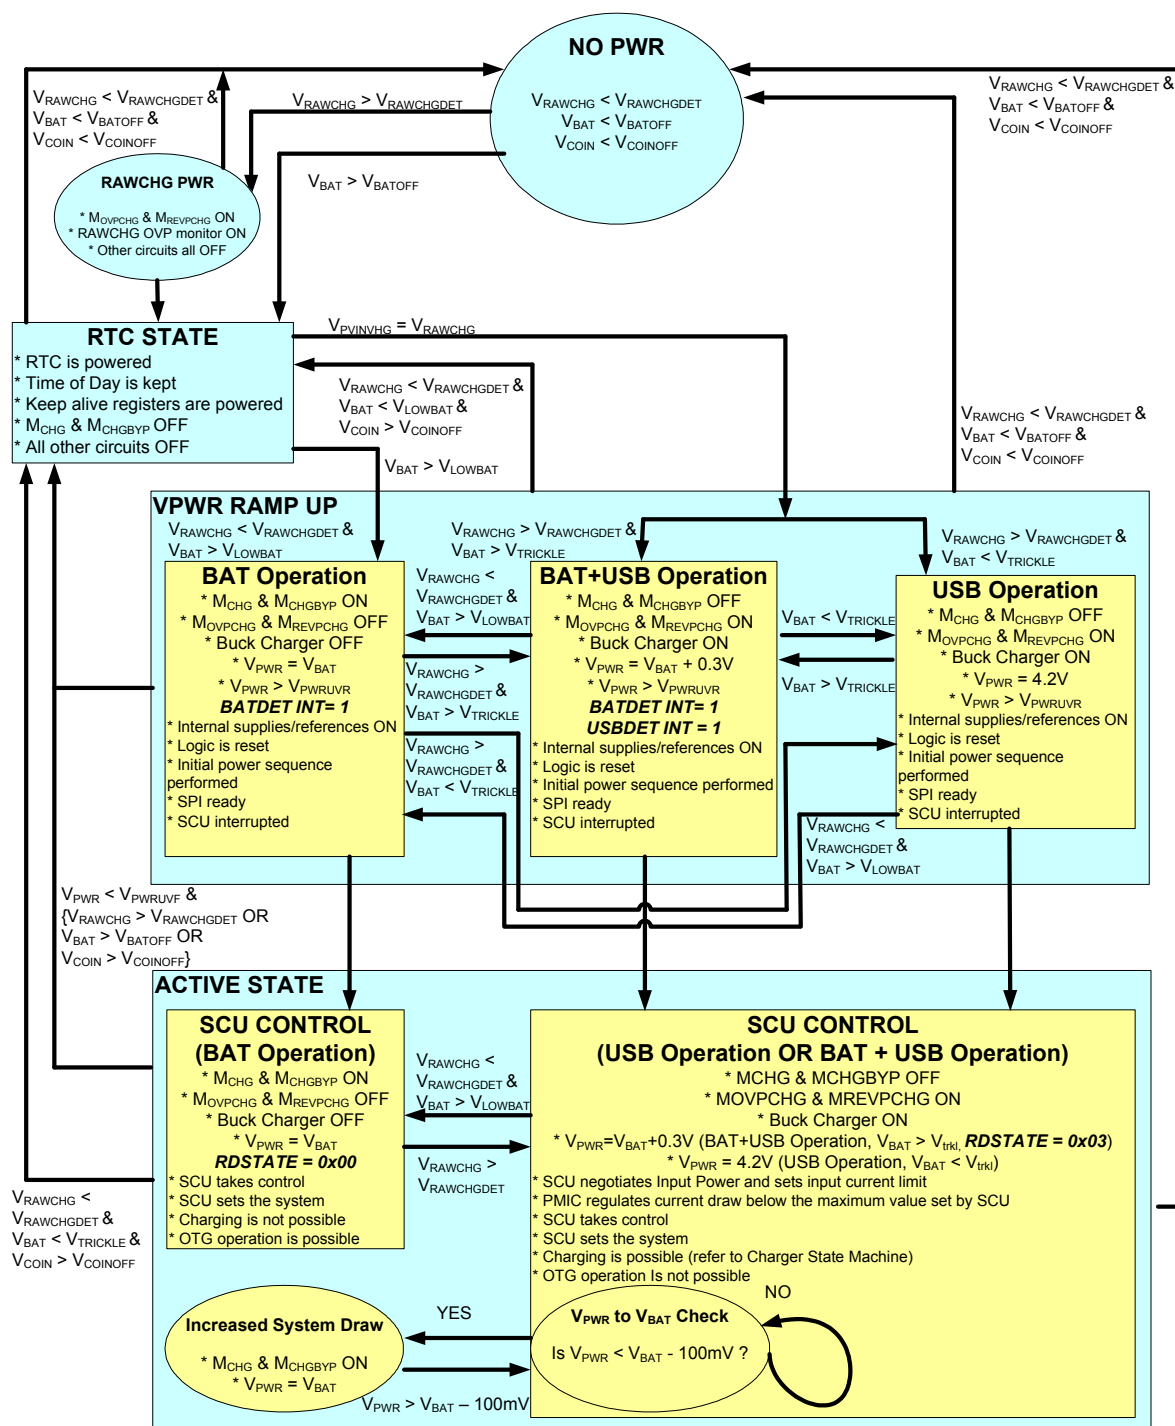

Figure 18. 900841 Power States
Figure 18 shows the flow of power, the different power states, and the conditions necessary to transition between
1.  $V_{\text{RAWCHG}} > V_{\text{RAWCHGDET}}$ : A charger input is valid and has been detected. Note that this is the same condition for an RTC state. This means that if this condition occurs, the device goes through the RTC state, then directly into a  $V_{\text{PWR}}$  ramp up sequence to try and get to the active state (see Figure 18 for more details).
Reference Figure 18 and Battery Interface and Power Path Management.